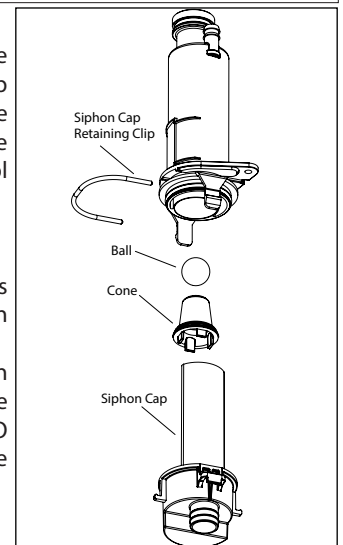

Figure 88 - Clean the Condensate Trap
- Working from below the boiler, remove the siphon cap retaining clip. Then remove the siphon cap by depressing the two (2) lateral hinges (use a tool if necessary).
**NOTE:** Ensure all parts shown in Figure 88 are installed with the boiler. If any parts are missing DO NOT operate the boiler. Replace the entire condensate trap assembly.